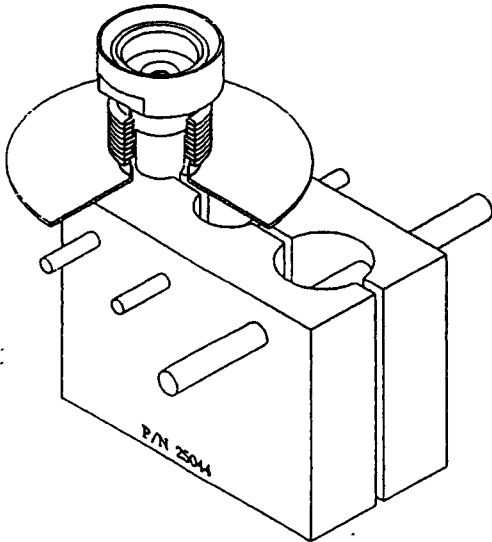

Figure 5.2
9. Thread Disc Holder onto Stem Retainer using special assembly block (see Figure 5.2). Do not attempt to hold Stem Retainer on the guiding surface. Thread Disc Holder Lock Screw counter clockwise until contact is made with Disc Holder. Tighten to lock the assembly together.